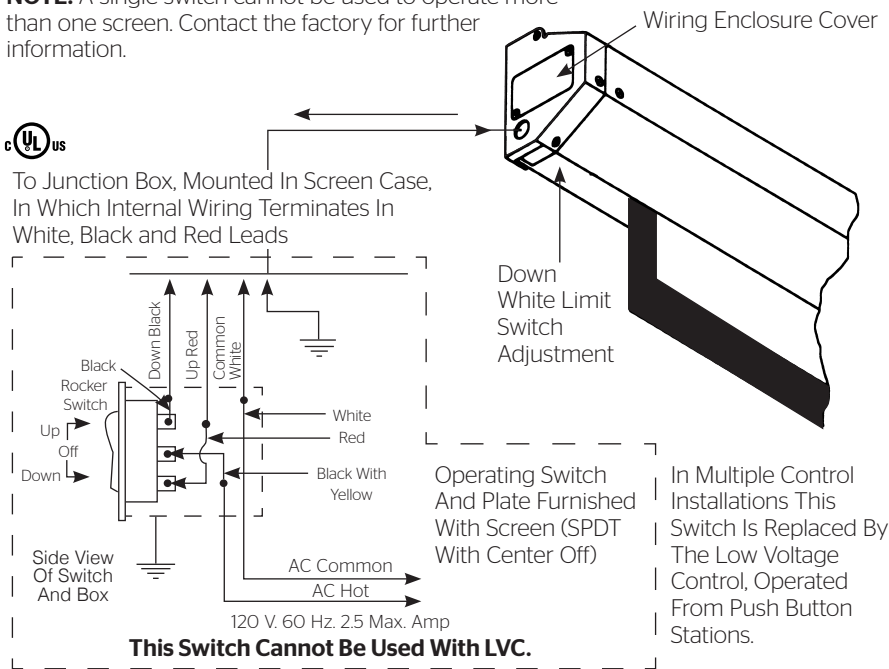

Figure 3
**To Reduce Screen Drop:** Turn the white limit switch screw (Figure 3) clockwise to decrease the amount of screen drop. Run the screen down to test the stop position. If the screen drops too far, raise the screen about one foot and adjust the limit switch again. Repeat until the desired position is set.